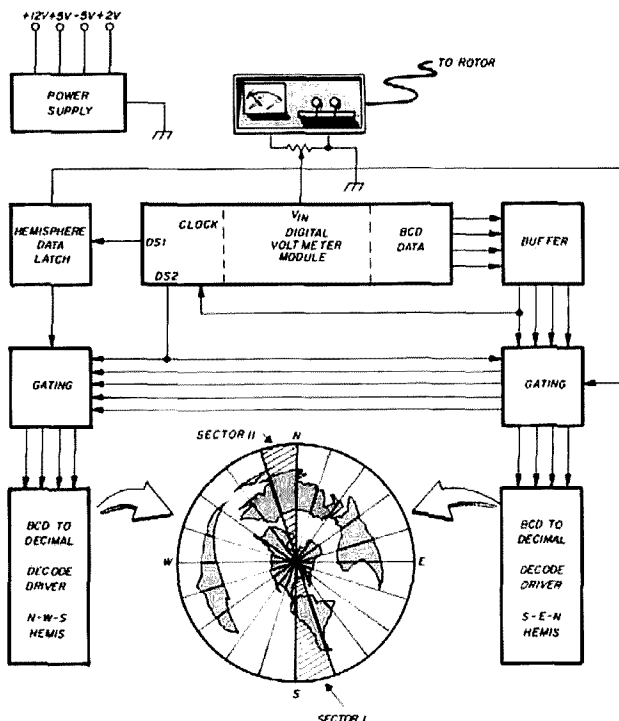

fig. 1. Functional block diagram of the solid-state antenna position display. The entire system is based on a 3-1/2-digit DVM IC manufactured by Motorola.
fig. 1. Block diagram of the 10/80-watt amplifier for 2 meters. The switched attenuator is used to vary the drive level into the amplifier to switch between 10- and 80-watt power levels.
The switched attenuator shown in fig. 1 is drawn schematically in fig. 3(A). It is a tee configuration in which PIN diodes are used to add or remove resistors that are in parallel with the elements of the attenuator. PIN stands for "P-intrinsic-N" and describes regions of P and N semiconductor material that have a piece of undoped or "intrinsic" silicon sandwiched between them. This construction gives the PIN diode its unique properties. For low-frequency signals, the device behaves like a conventional PN-junction diode. At uhf, the diode is a current-controlled resistor. For high-forward current, the series resistance is low. For low-forward current, the series resistance is high. Reverse biasing the PIN diode further raises its series resistance. An ideal PIN diode should not rectify rf, but in the real world these diodes do rectify and this must be dealt with in rf-switching applications.
The last block in **fig. 1** is the rf detector and T/R switch. The detector, CR3, is simply a rectifier with a low enough reverse recovery time to be effective at 150 MHz. The rectified rf signal is used to forward bias the relay driver, Q1, which in turn energizes K1 during transmit operation. The relay closes when approximately 0.7 watt of power is fed to the input jack of the amplifier. The relay contacts are used to switch the bias to the PIN diodes in the actual T/R switch. These PINs are CR1 and CR2 at the amplifier input, and CR8 and CR9 at the output.
The display background itself is a polar great-circle map of the globe divided into twenty 18-degree sectors. With a 0 to 1.99 volt input signal swing and a maximum 360-degree rotation, each sector corresponds to an increment of 100 mV. Each hemisphere corresponds to an increment of 1 volt of analog input signal. For example, as seen in **fig. 1**, sector 1 is displayed when the input potential to the MC14433 has any value from 0.0 to 0.1 volt. This corresponds on the map to the sector between 180 and 162 degrees in the S-SE quadrant of the Ham II meter scale. Likewise, sector 11 would be displayed when the input voltage is between 1.0 and 1.1 volts,
Fig. 1, the block diagram, and fig. 2, the schematic, show the signal and logic flow from the input of the A/D converter to the sector indicator. The analog signal between 0 and 2 volts is applied to pin 3, the analog input, from the voltage divider, R5, which accepts the 13-volt signal from the rotator. C3 and R7 are used to provide RFI immunity.
fig. 1. Frequency spectrum of an FSK system on 20 meters. (A) shows the ideal spectrum, with the mark being the higher of the two frequencies. In all cases, the information bandwidth is not considered. In (B), you can see the consequences of improper carrier balance and poor upper-sideband suppression when using an audio tone to generate an FSK signal. The spectrum when the sideband filter does not properly suppress harmonics is seen in (C).